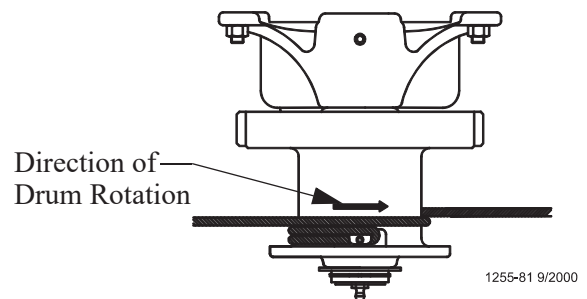

Figure 12. Power Winch Drum Rotation
5. Turn the winch drum one full revolution. Guide the cable against the flange at the bottom of the winch drum. The cable must not wrap over itself on the drum, but should be wrapped as close as possible to each previous wrap. (See **Figure 12.**)